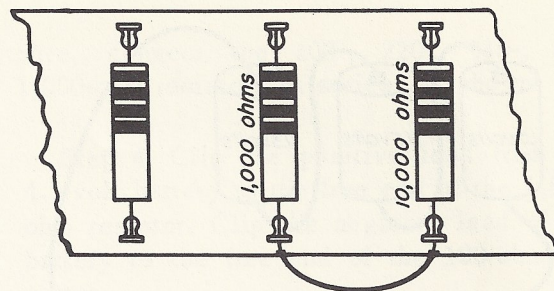

Fig. 9-3
Step 1. Connect and solder one end of the 10,000-ohm resistor to the 1,000-ohm resistor on the breadboard, as in Fig. 9-3.